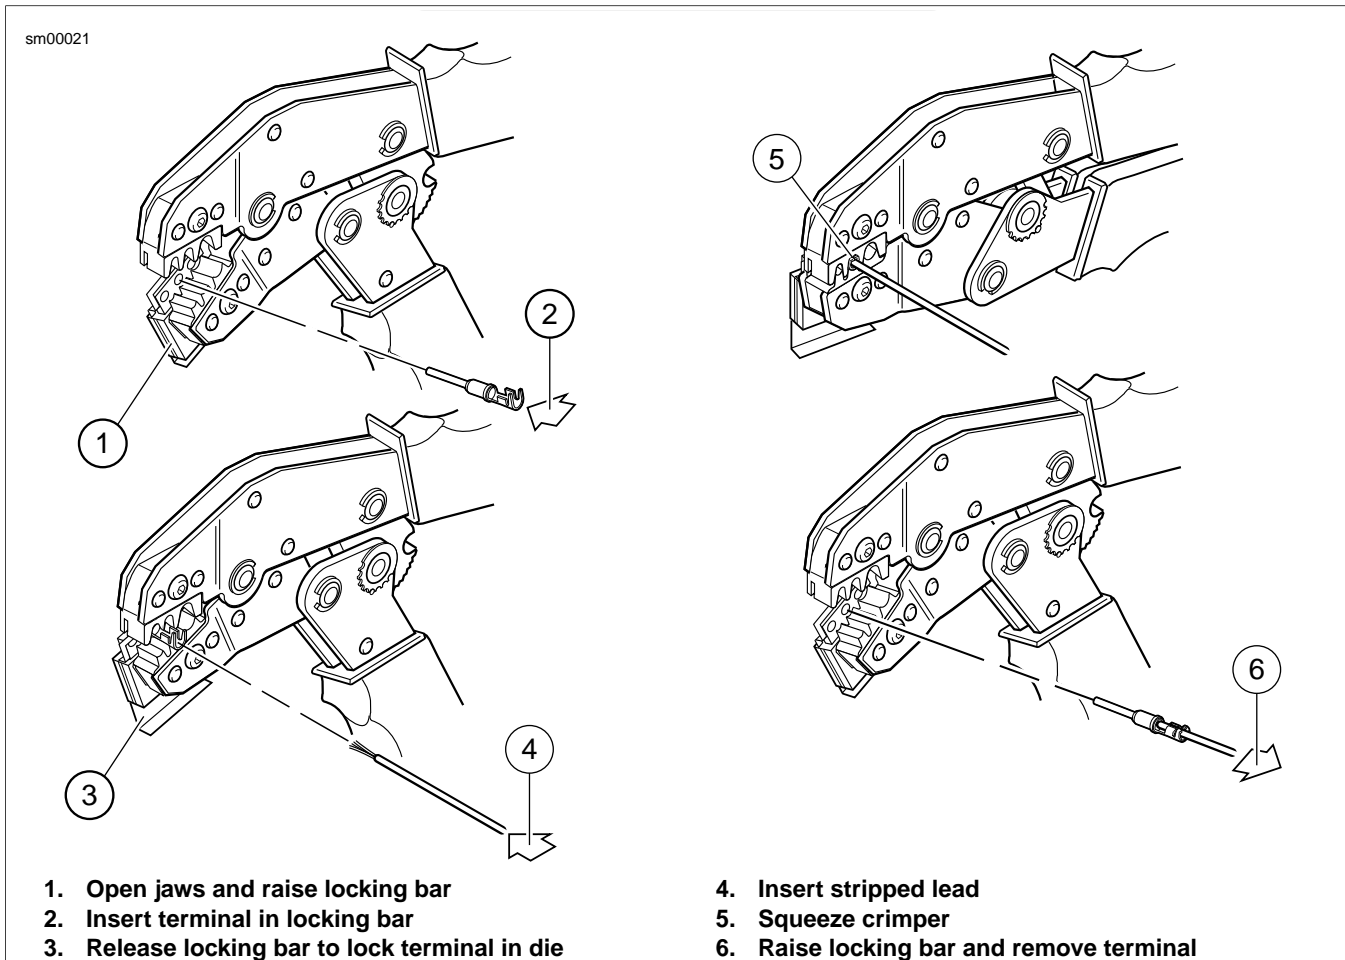

Figure A-18. Crimping a Deutsch Standard Terminal
1. See Figure A-18. Squeeze the handles of the DEUTSCH TERMINAL CRIMP TOOL (Part No. HD-39965-A) to open the jaws. Push the locking bar (1) up.
2. Insert (2) terminal (socket/pin) through hole of the locking bar, so that the rounded side of the contact barrel rests in the nest (concave split level area) with the crimp tails facing upward. To match the wire gauge to the crimp tool die, refer to Table A-3.